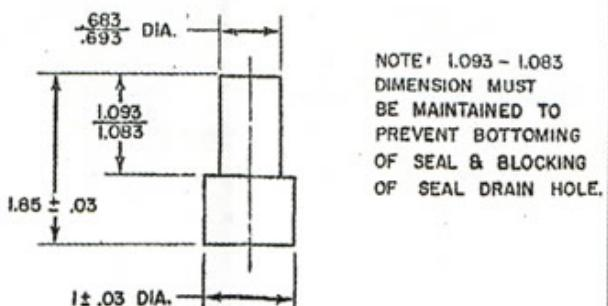

FIG. 2
11. Press into place using seal installer tool (fig. 2).